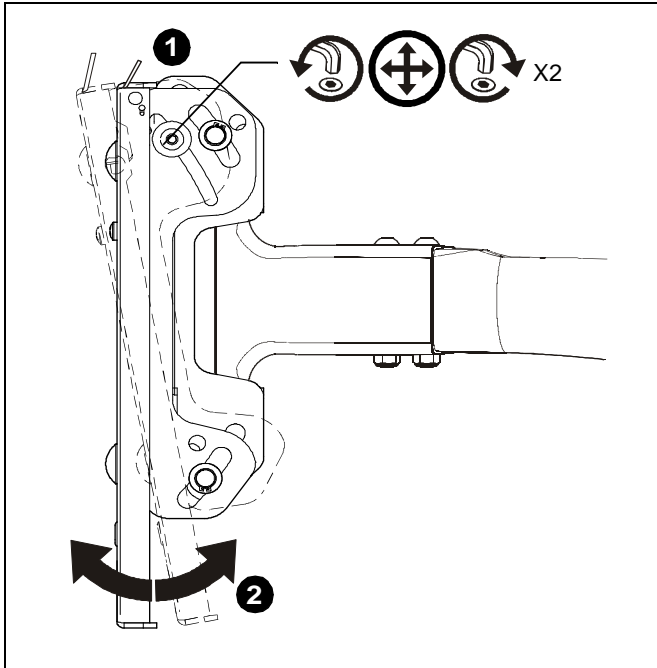

Figure 5
1. With display installed, tighten or loosen two screws, one on each side, using the 5/32" hex wrench. (See Figure 5)